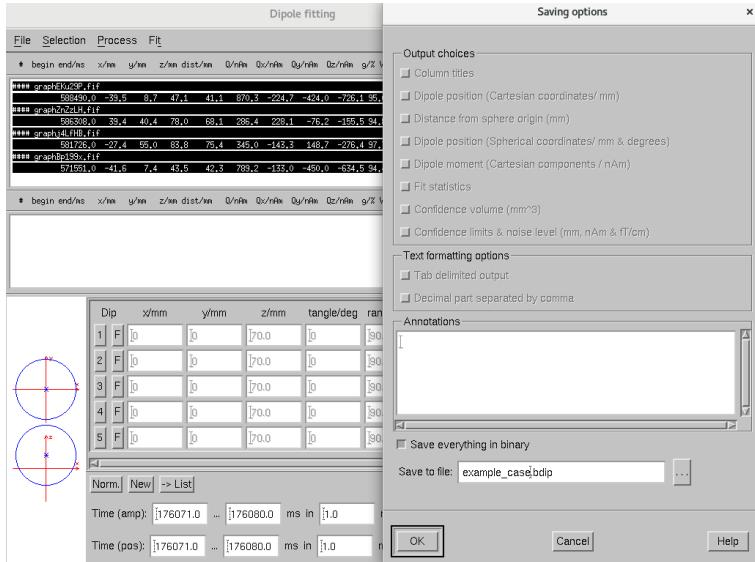

Figure 39: Selected dipoles can be saved to a binary or ASCII file.
- Saved binary (\*.bdip) and ASCII (\*.dip) files can be loaded back into *Mrilab* by selecting **File -> Import -> Dipoles (Alt-f + i + d)** (Figure 39).